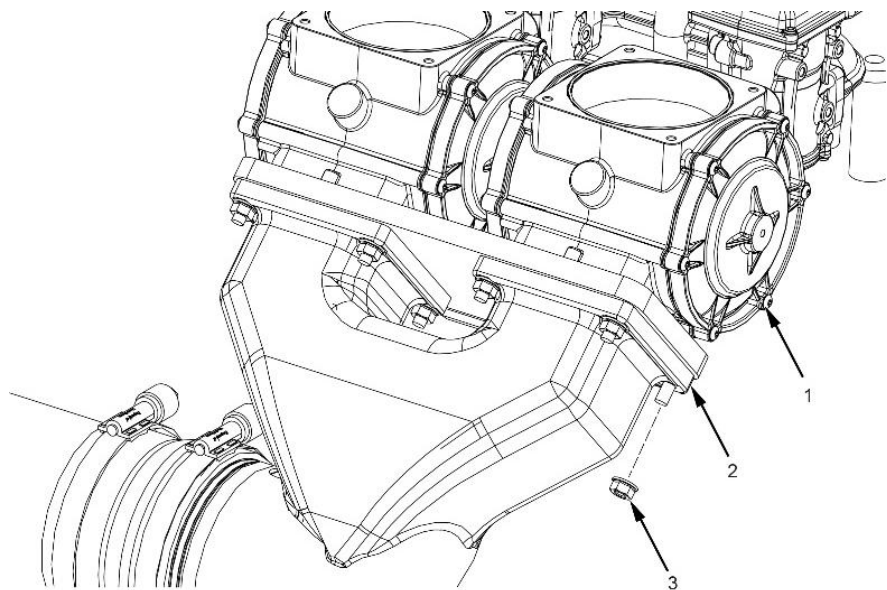

Figure 27. Dual Mixer Bracket Assembly
- 3. Remove eight nuts (Figure 27, Item 3) from mixer outlet pipe (Figure 27, Item 2) and fuel mixers (Figure 27, Item 1).
8. Install mixer intake pipe (Figure 27, Item 2) to fuel mixers (Figure 27, Item 1) with eight nuts (Figure 27, Item 3).